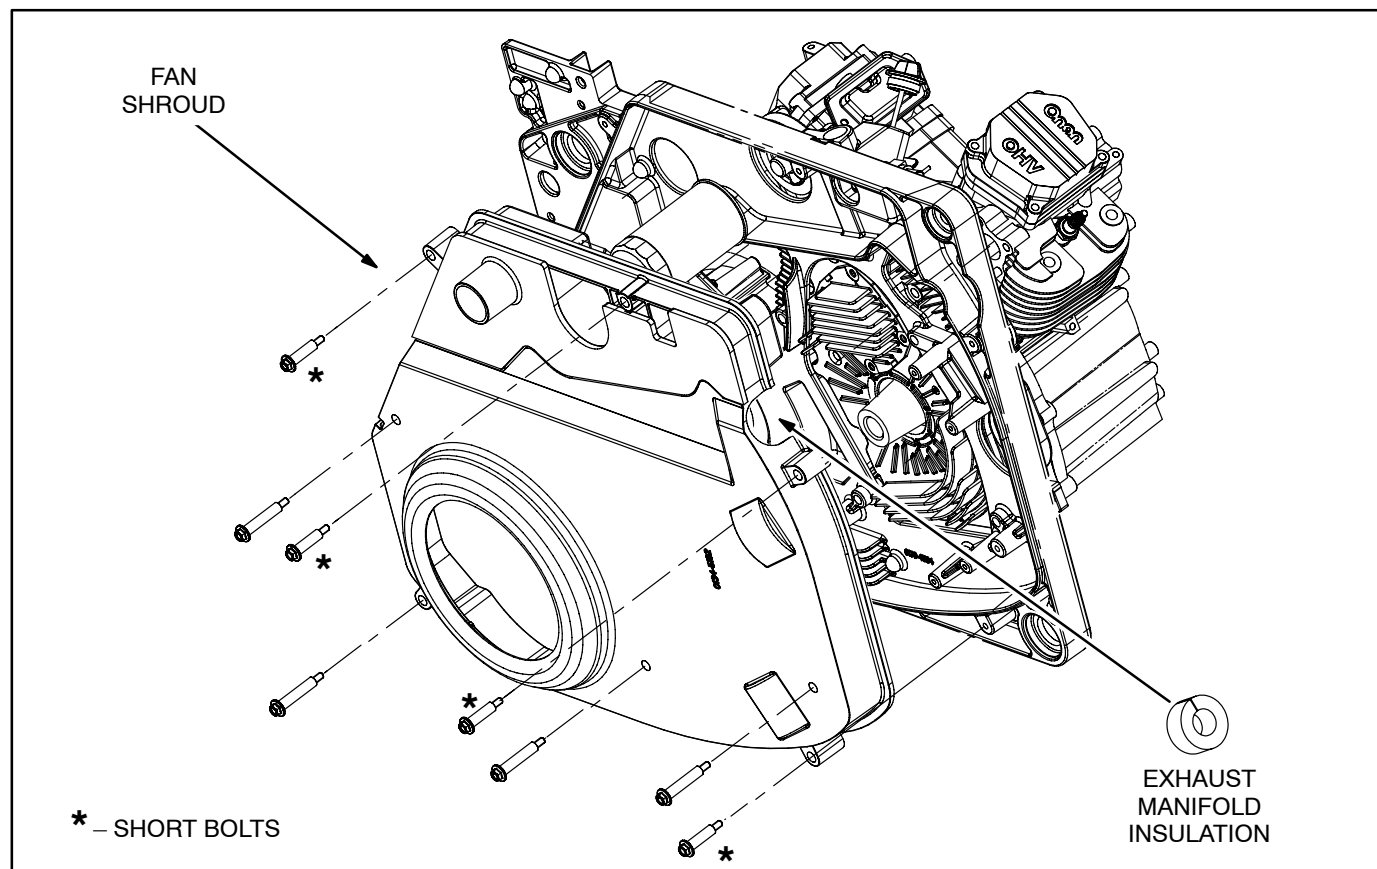

FIGURE 7-1. FAN SHROUD
The fan shroud (Figure 7-1) on the underside of the generator/engine assembly encloses the cooling fan, belt drive, flywheel, ignition coils (magnetos) and exhaust manifold.
2. Remove the eight fan shroud bolts and remove the fan shroud (Figure 7-1).
Reinstall the ignition coils and set the air gaps (IGNITION COILS in this section) if the flywheel has been removed. Install the fan shroud, making sure the exhaust manifold insulation (Figure 7-1) is in place. Note that the fan shroud bolts are of two lengths. Torque the fan shroud bolts to 8 lb-ft (11 N-m).